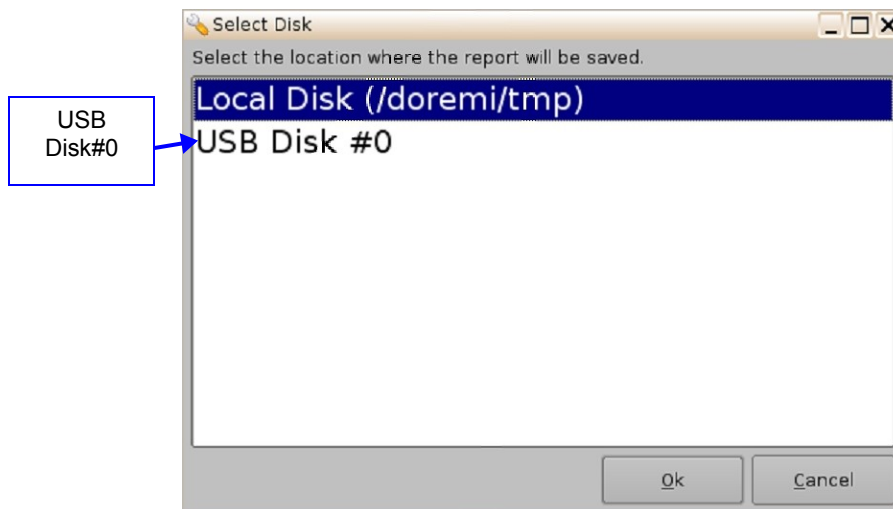

Figure 2: Detailed Report Location Selection
- Click on the device/location from the window that pops up (Figure 2).